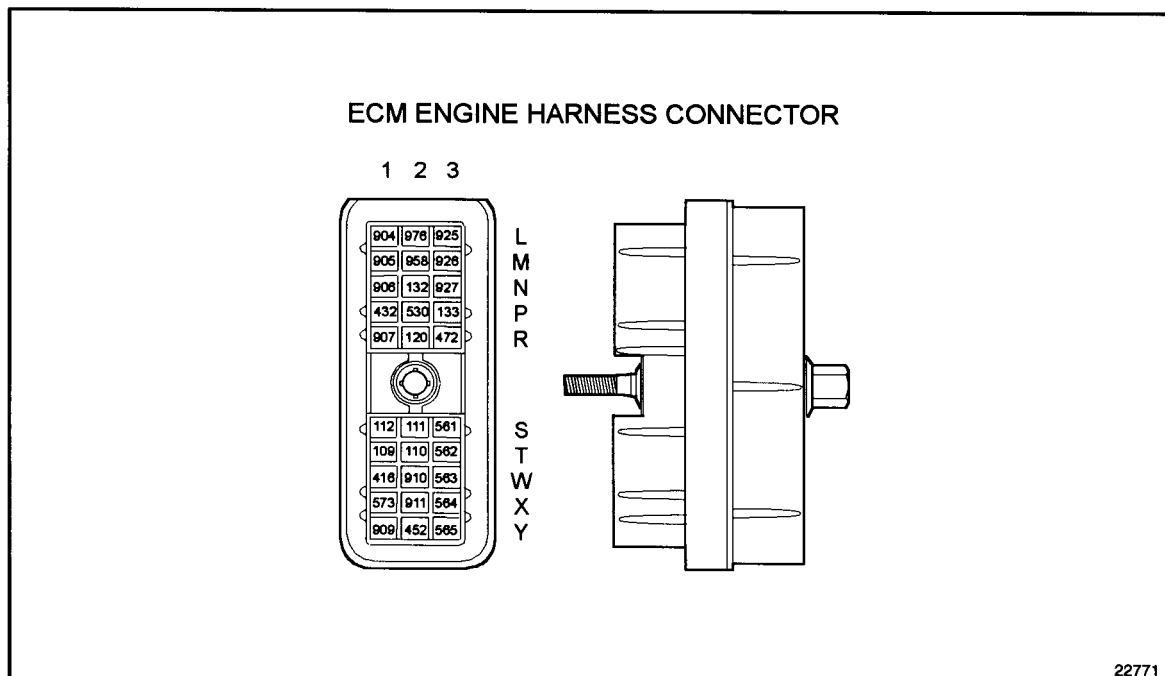

Figure 27-6 ECM Engine Harness Connector
1. Check terminals at the ECM engine harness connector (both ECM and harness side) for damage: bent, corroded and unseated pins or sockets. See Figure 27-6.